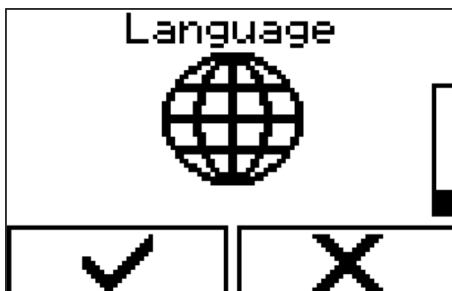

Fig. 61: Selecting a menu
1. → Select the menu via 'Hand switch' → 'Language' (Fig. 61).